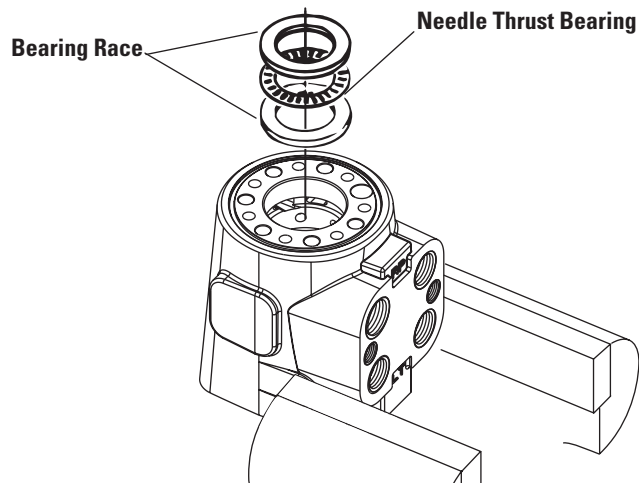

Figure 16
14. Install two bearing races and Thrust bearing as shown in figure 16.